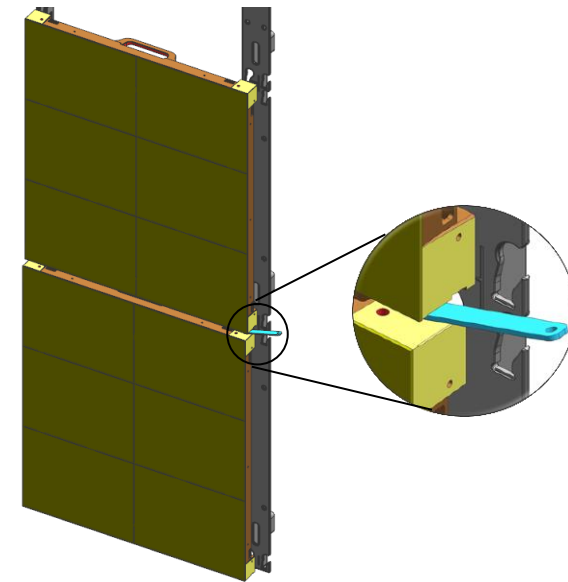

Fig.3
④ From the layers above the second floor, insert the Service Jig between each Cabinet, remove the Service Jig, slowly lower the Cabinet. (Fig.3)